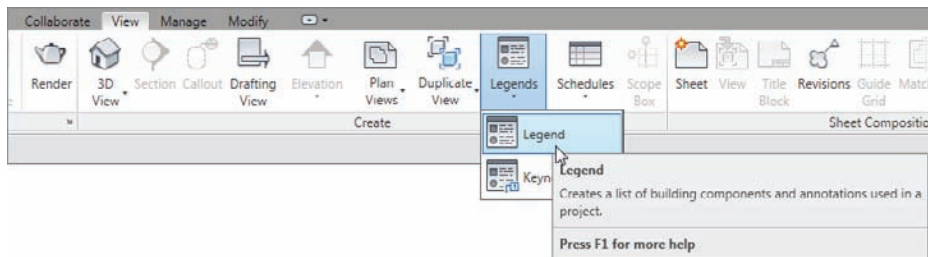

FIGURE 11.39 Click the Legends > Legend button on the View tab.
1. On the View tab, click the Legends > Legend button, as shown in Figure 11.39. You can also right-click Legends in the Project Browser and pick New Legend.